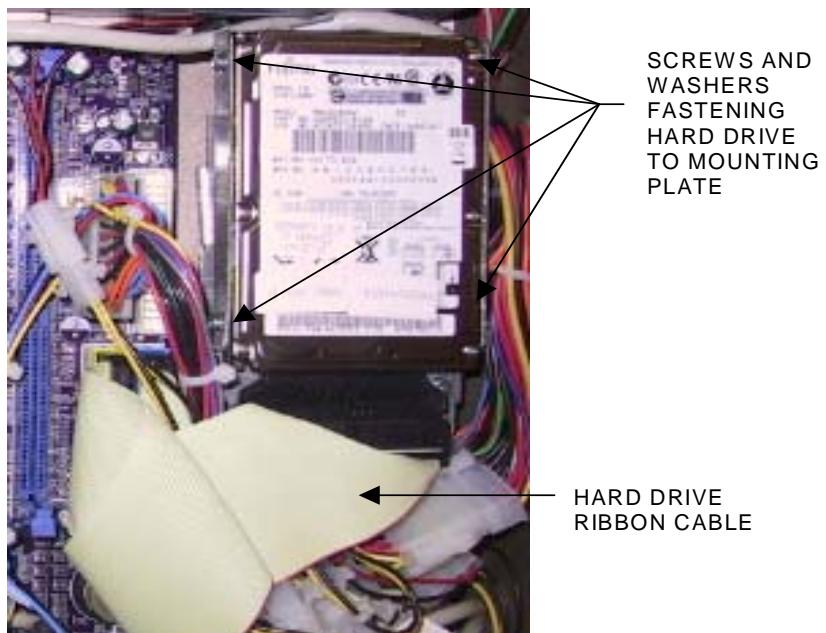

FIGURE 3 - NON-QUICK-CLICK HARD DRIVE REMOVAL
4. Remove the 4 screws and washers securing the hard drive to the hard drive mounting plate. See Figure 3.